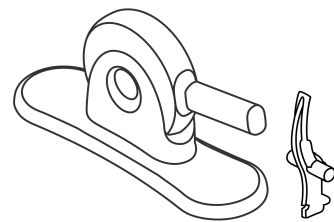

Figure 5: Edwards Crimper and Crimp Stopper
• Edwards Crimper and Crimp Stopper (Figure 5)